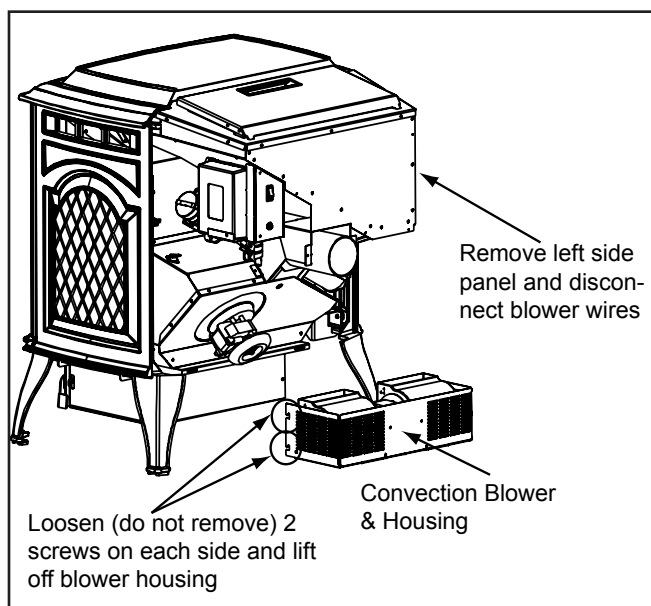

Figure 31.1
- Remove the 4 screws that attach the blower housing to the appliance, 2 on each side. Loosen all 4 screws, but do not remove them. Lift the blower housing up slightly and slide towards you. **Figure 31.1.**